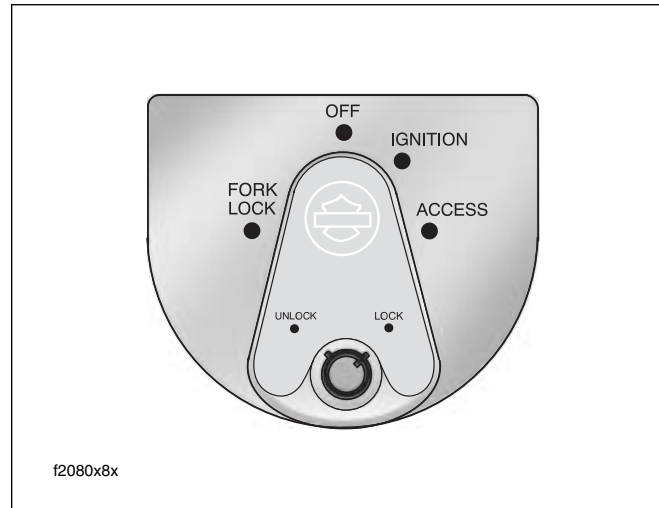

Figure 5-4. Ignition Switch (FLHX, FLHT/C/U, FLTR)
- See Figure 5-4. "Key ON" means that the ignition key is turned to IGN and the engine stop switch is set to RUN (although the engine is **not** running).